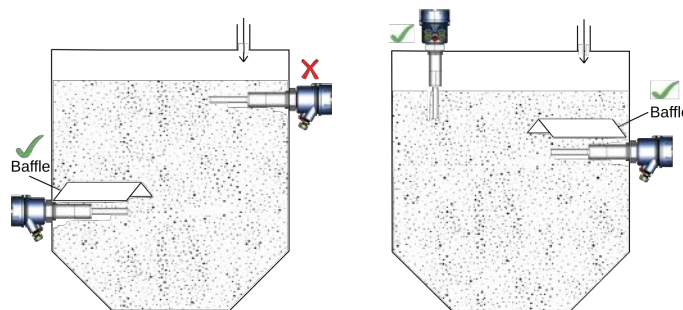

Figure 3: Correct Side Mounting
- For side-mounting, provide a baffle to prevent the application material from falling on the vibrating rod. Please refer to Figure 3.